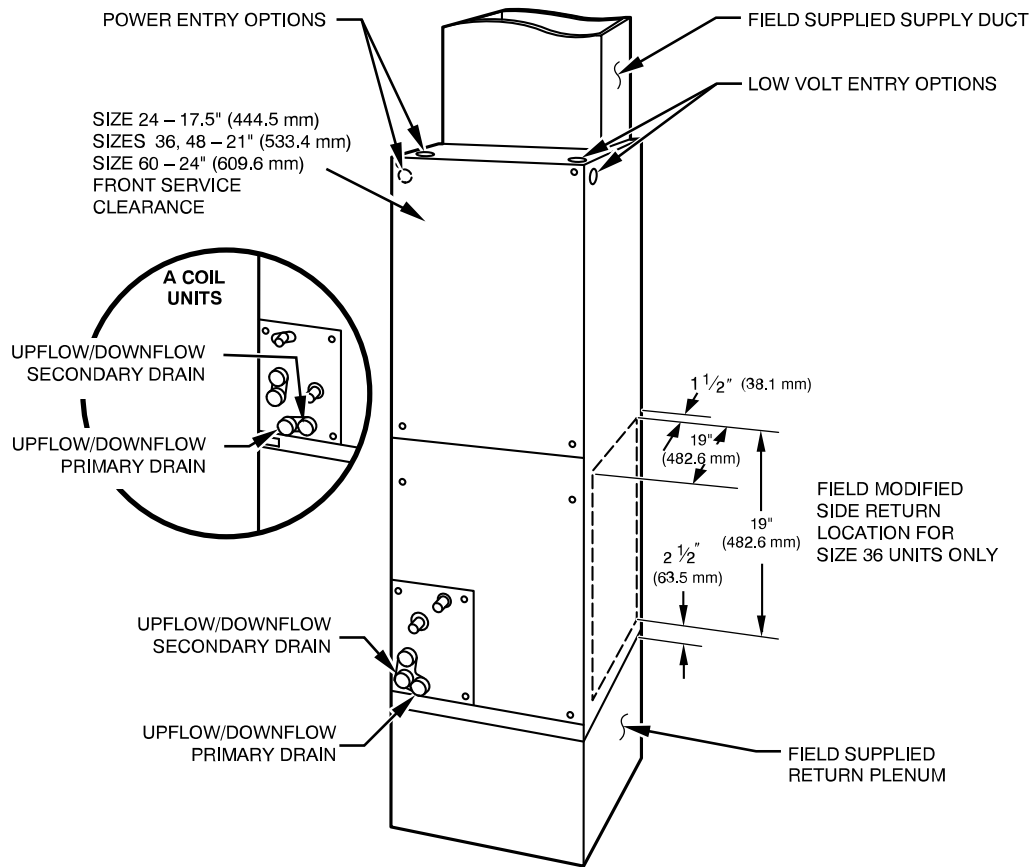
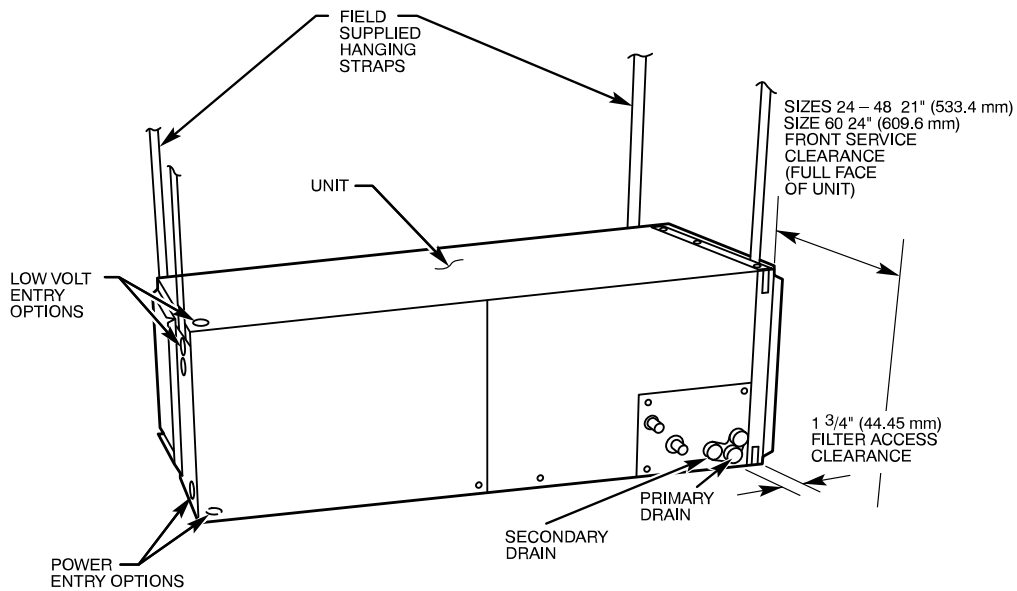
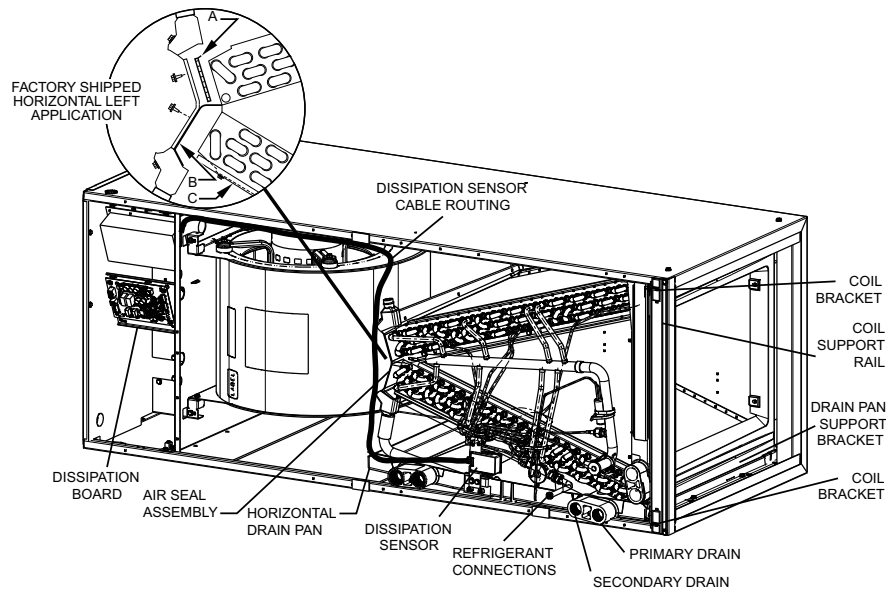

Fig. 1 – Slope Coil Unit in Upflow Application
Fig. 2 – Slope Coil in Horizontal Left Application
Fig. 3 – A-Coil in Horizontal Left Application
FE5B fan coils can be installed for upflow and horizontal-left applications as factory shipped (Fig. 1, Fig. 2, Fig. 3), and may be converted for downflow applications using factory-authorized accessory kits.
Side return is a field option on slope coil models. Cut opening per dimensions (Fig. 1). A field-supplied bottom closure is required.
2. When suspending unit from ceiling dimples in casing indicate proper location of screws for mounting metal support straps (Fig. 2).